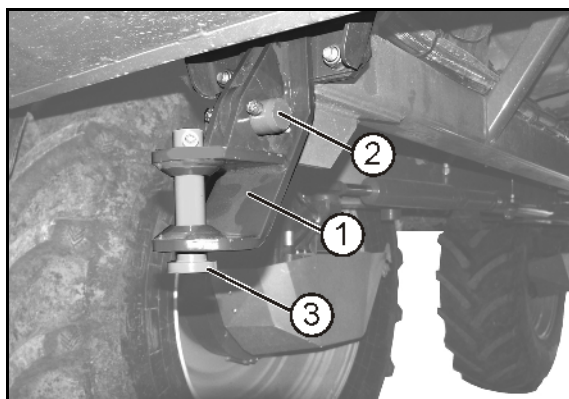

Fig. 146
2. Remove the pressure filter (Fig. 146/1) and clean with water.
5. Remove the pressure filter (Fig. 146/1) and clean with water.